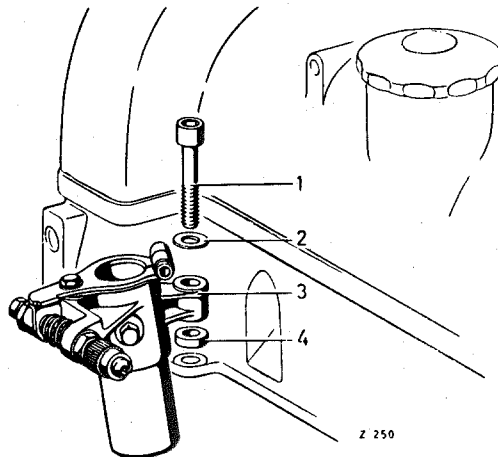

Fig. 01—4/23b
3. Unscrew the hexagon socket screw (1) and pull out the distributor bearing (Fig. 01—4/23b). Up to Engine No. 65 000 97 a distributor bearing with no fixing lug was installed. Up to this engine number the distributor bearing was fastened by the screw (4) (Fig. 01—4/23a).